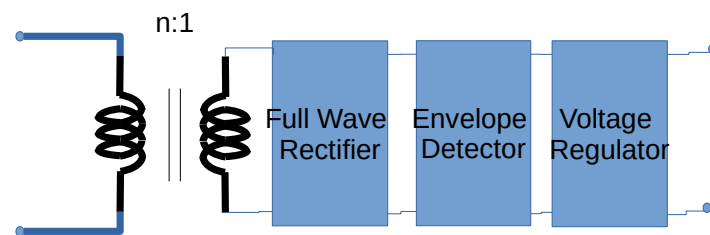
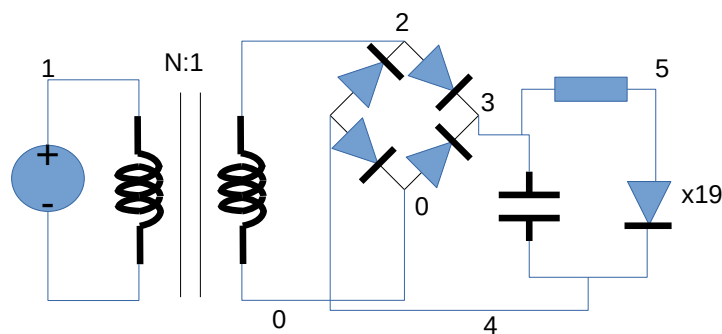

Figure 1: Assigned Circuit.
Figure 2: Chosen Circuit.
The objective of this laboratory assignment is to study a converter circuit, in this case from alternate current (AC) to direct current (DC). This circuit uses a transformer, a full wave rectifier, an envelope detector and a voltage regulator, which were chosen from the lectures. The format of the circuit can be seen in Figure 1. And the circuit chosen can be seen in Figure 2.
Using the values stated above and using them in a simulated circuit in ngspice as shown in the circuit shown in Figure 2 we obtain the following results.